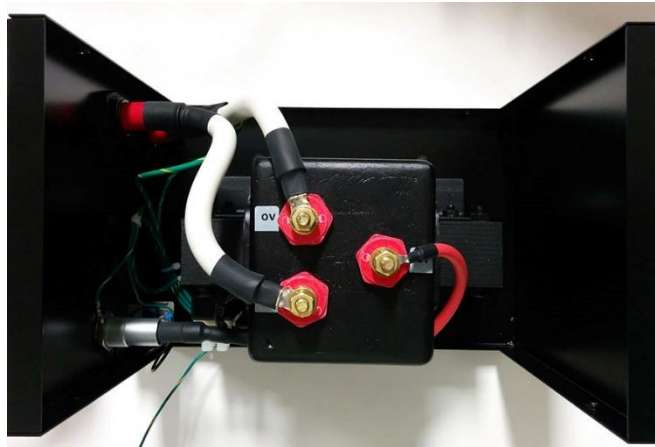

Figure 4-J Filament Transformer Connections
10. Install the two supplied ¾" NPT flexible Strain Relieves 110-0052-4 in the openings of the Filament Transformer Box, run the supplied red HV Cable Set 122-0031-1 through them, connect the ring lugs to the output bolts of the Filament Transformer (see Figure 4-J), and connect the shields to the internal GND bolt. Keep the shield wires away from the HV.